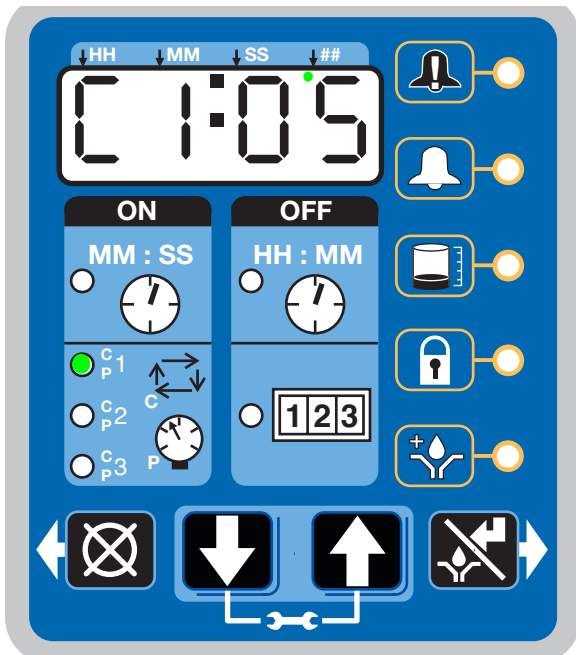

FIG. 30
- The display indicates the sensor (C1, C2, C3) and the remaining cycles for that sensor (FIG. 30).
The example shown in FIG. 30 shows sensor C1 with 5 cycles remaining.